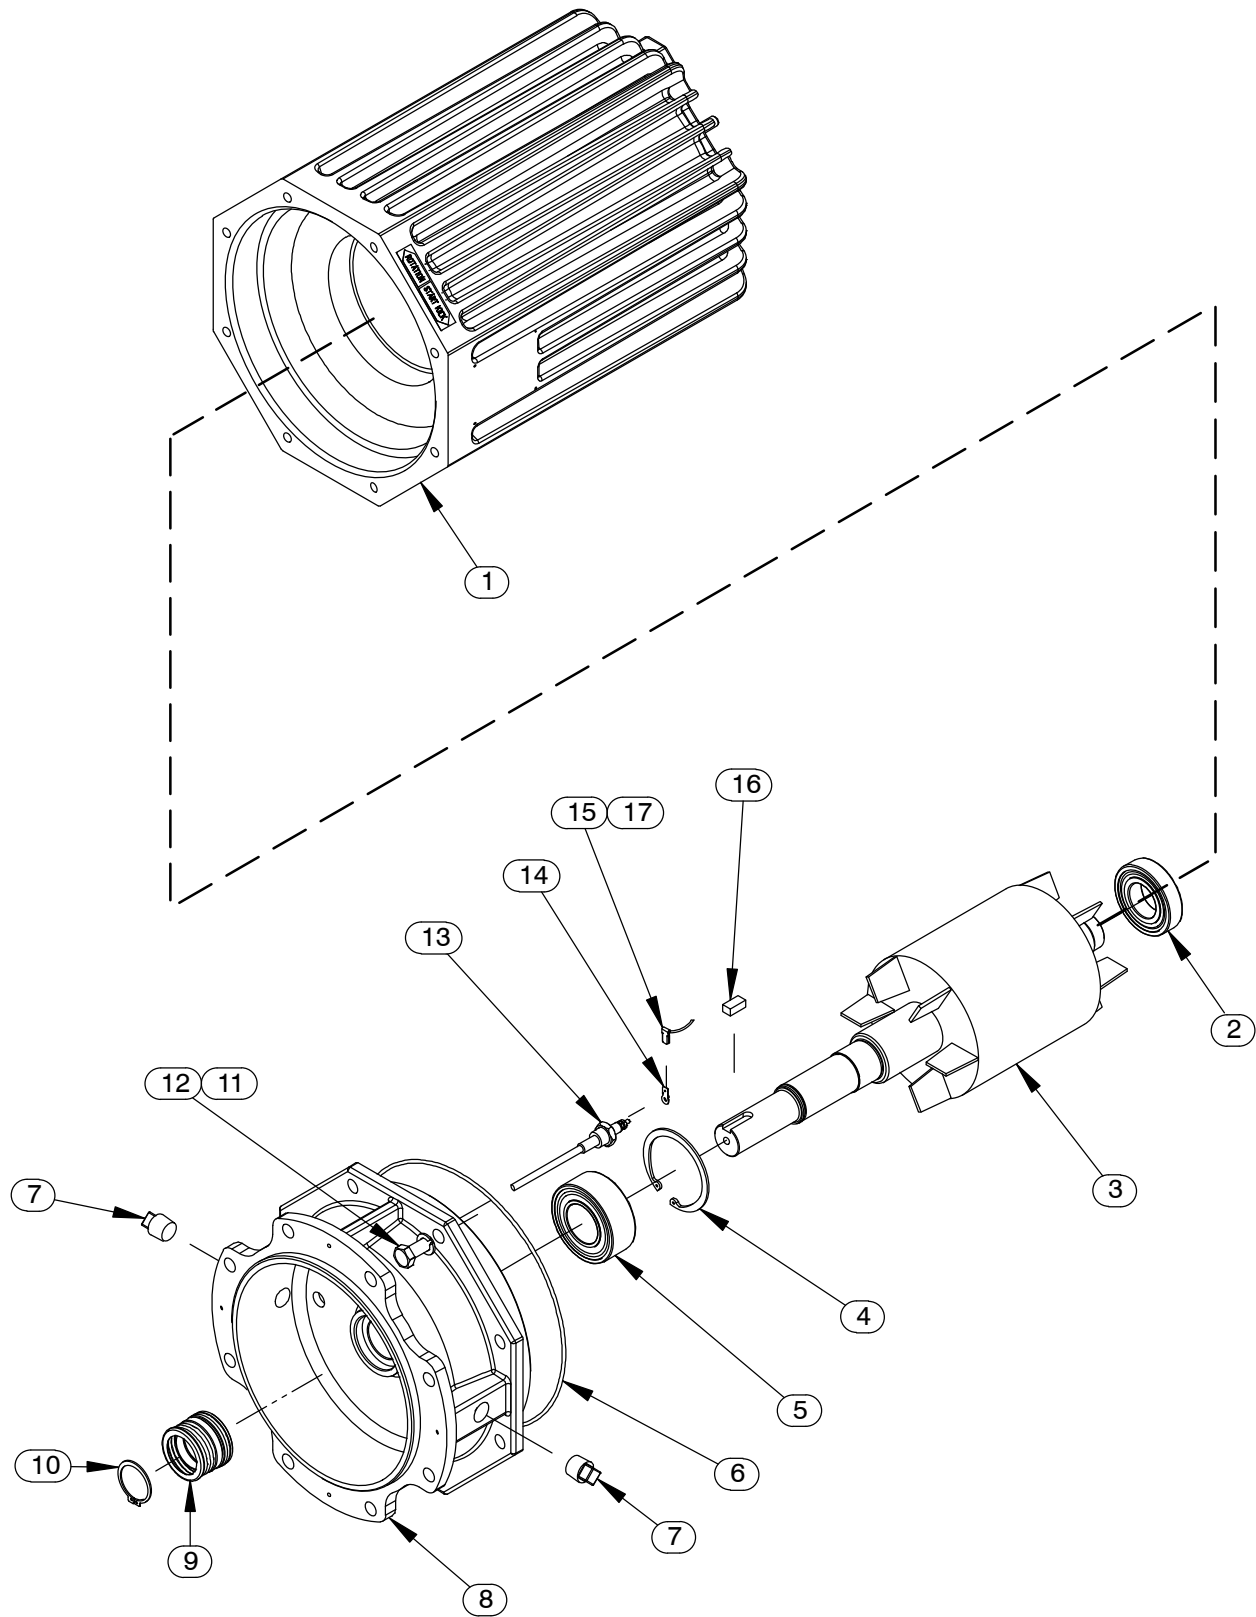

Figure E-2. Motor Assemblies
#### (Figure E-2)
To remove the impeller, use two thin-bladed screwdrivers positioned 180° apart to pry on the back of the impeller and “walk” the impeller off the shaft. Use increasingly larger screwdrivers (or wedges) as necessary. After the impeller comes free of the shaft, retain the impeller key (16, Figure E-2).
*An alternate method of removing the stationary element is to remove the screws (7) securing the seal plate (9) to the motor assembly (13). Pry the assembled seal plate and stationary element off the shoulder of the intermediate (8, Figure E-2). Remove the O-ring (8) and press the stationary element and seat out of the seal plate from the back side.*
### (Figures E-2 and E-3)